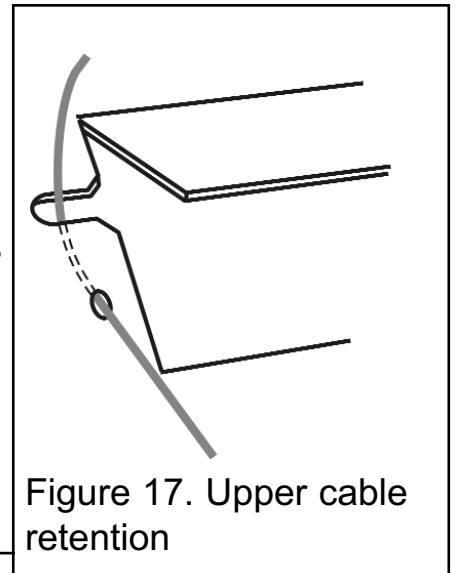

Figure 17. Upper cable retention
5. The rear of the hotbox has a slot and hole each side of the outlet opening. Assemble one end of the cable to the top of the fire by passing it through the small round hole and locking by positioning the cable in the adjacent slot (See figure 17). Give the cables a pull so that they grip.